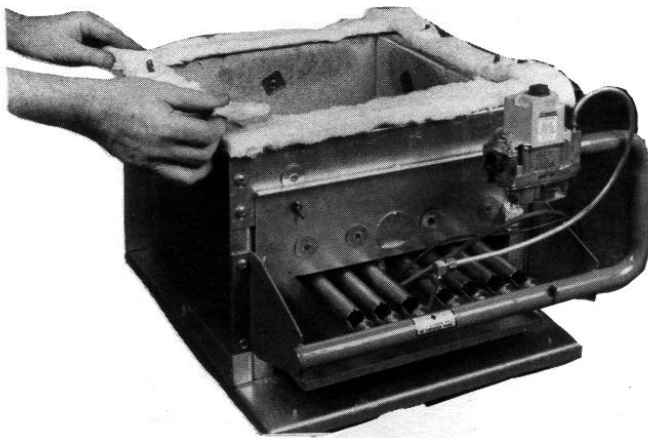

Figure 4: Base Gasket Installation
1. Install (4) 5/16" x 1/4" self-tapping screws through (4) holes in upper base flange with screw heads on underside of flange. Note: Screws are located in fiber gasket parts bag.
2. Install ceramic fiber gasket. See Figure 4.